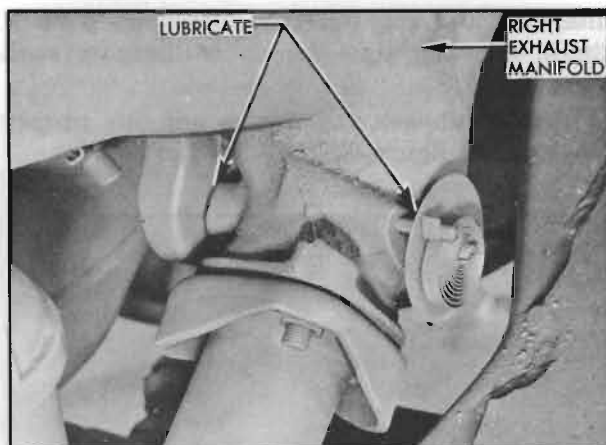

Figure 1-5—Manifold Valve
12. *Manifold Valve Shaft.* Place a few drops of graphited kerosene on shaft at each end and rotate shaft to work lubricant into bearings. See figure 1-5. If shaft is frozen, free up by tapping ends of shaft lightly with hammer.